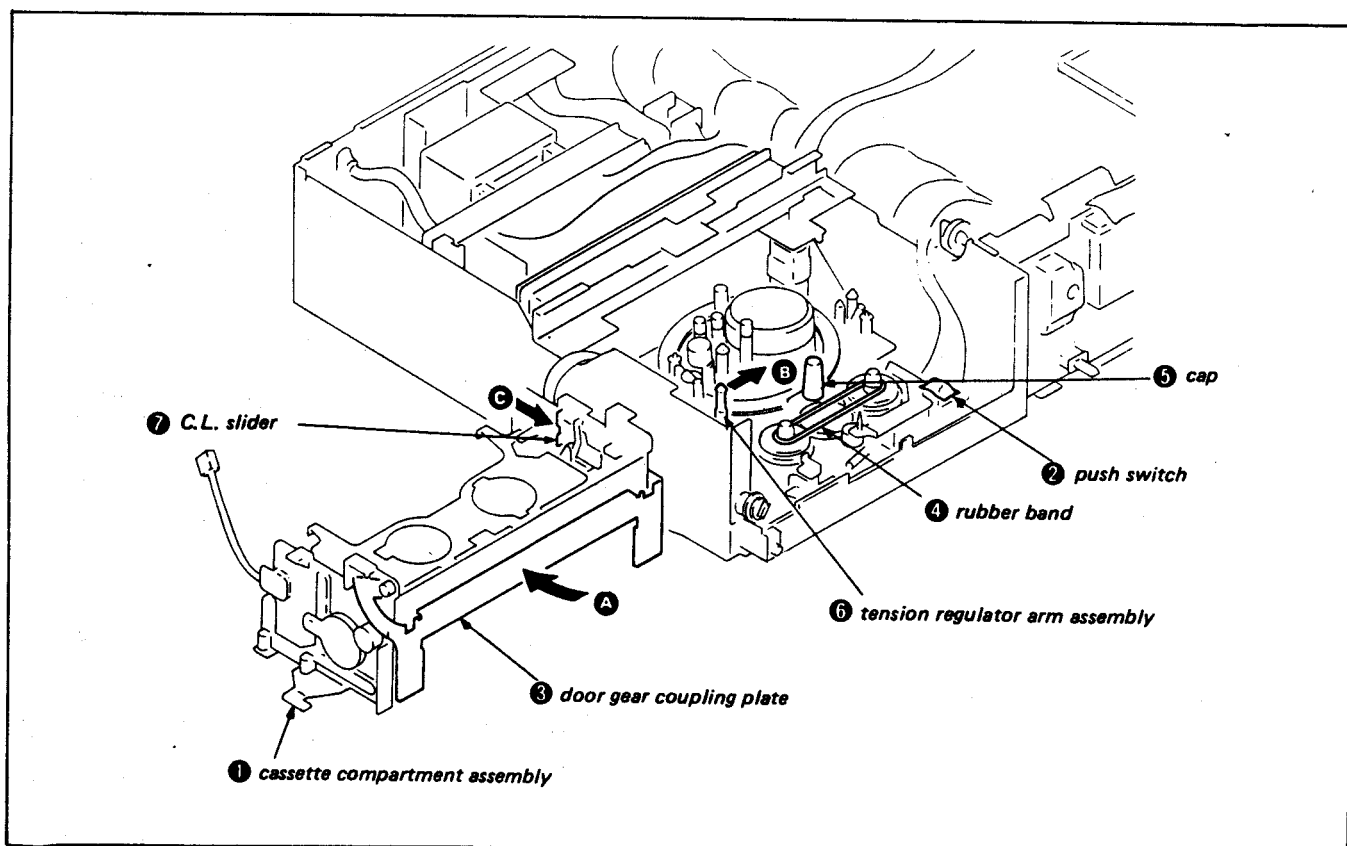

Fig. 1-1.
- 1) Remove the front panel and covers (upper, lower) according to item 1-1.
- 6) Place tape over the pin coming out of the push switch ②.
- 8) Press door gear coupling plate ③ in the direction of arrow **A**. (Refer to Fig. 1-1)
- 2) Place the rubber band ④ as shown between S reel and T reel sides.
- 3) Place a cap ⑤ over the LED assembly.
- 4) Press the playback button, and when the T reel side starts to rotate, press the tension regulator arm assembly ⑥ in the direction of arrow **B**. (At this time, the tension regulator band is released and the S reel side rotates.)
- 5) Press the stop button to stop. (Fig. 1-1)
- 2) Place a rubber band ④ as shown between the S reel and T reels.
- 4) Press the recording button, and when the T reel side starts to rotate, push the tension regulator arm assembly ⑥ in the direction of arrow **B**. (At this time, the tension regulator band is released and the S reel side rotates.)
- 5) Press the stop button to stop (Fig. 1-1)
- 1) Press the EJECT button. (Press the C.L. slider ⑦ in the direction of arrow **C** when opening the door gear coupling plate ③.) (Fig. 1-1)